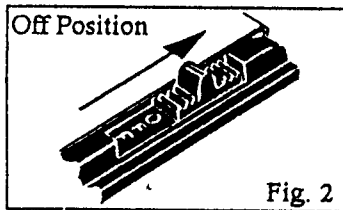
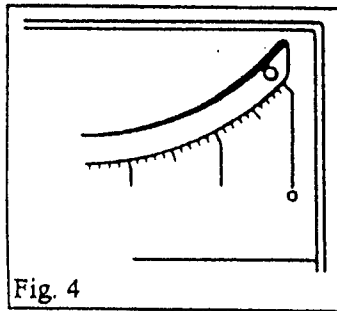

Fig. 2
Fig. 4
1. Set chart drive switch to "OFF" position (See Fig. 2 and 3). Check zero setting of pointer before making any electrical connections to the instrument (See Fig. 4). If adjustment is necessary proceed as follows:
- c) Using your finger, turn star wheel until the pointer lines up with zero, at the extreme right side of the scale (See Fig. 4).
3. In the upward position (exposing the word "OFF"), the recording mechanism is uncoupled, stopping the chart feed and printing (See Fig. 2).
2. Move chart drive switch to "OFF" position, (See Fig 2).